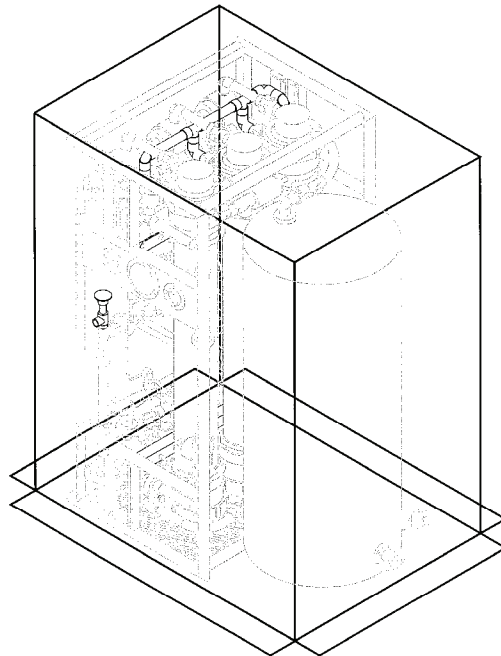

Figure 1. UF Module with Contamination Avoidance Cover (CAC).
4. Cover all modules with the CACs from the BII. The UF module and high-pressure pump module have a CAC each. See Figure 1 and Figure 2.